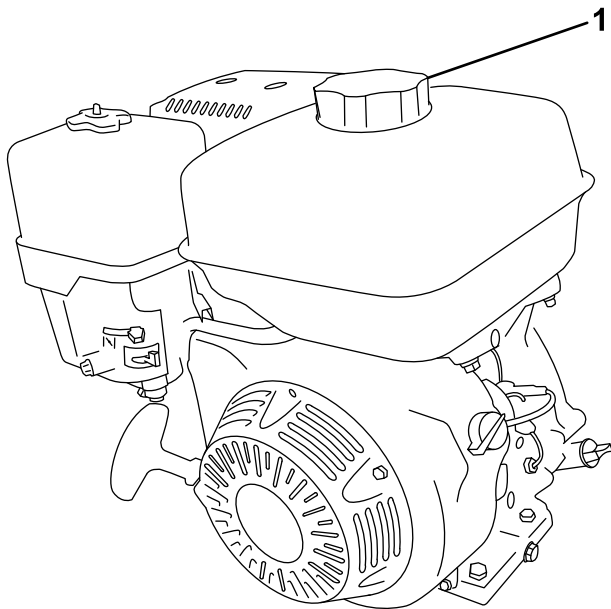

Figure 33
2. Clean around the fuel cap and remove it (Figure 33).
4. Install the fuel cap securely (Figure 33).